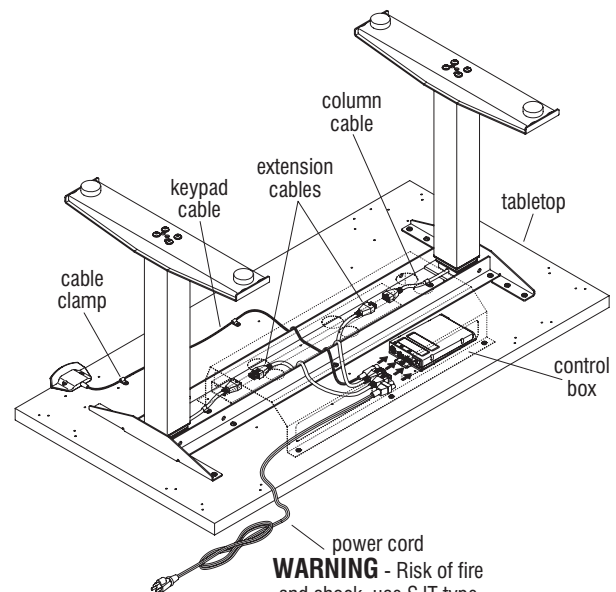

Figure 6
1. Connect the extension cables to the leg cables, then connect cables to the M1 and M2 sockets on the control box (Figure 6).
2. Connect the keypad cable to the HS socket on the control box (Figure 6).